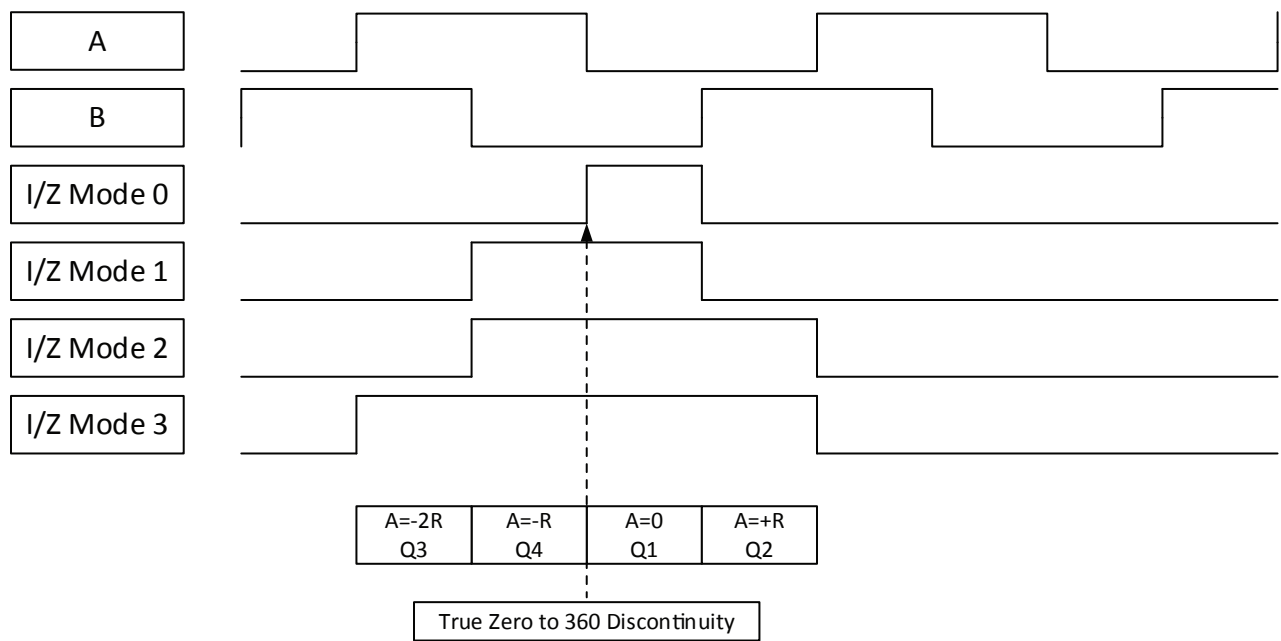

Figure 9: Index Pulse
The index pulse I (or Z in some descriptions) marks the absolute zero (0) position of the encoder. Under rotation, this allows the receiver to synchronize to a known mechanical/magnetic position, and then use the incremental A/B signals to keep track of the absolute position. To support a range of ABI receivers, the ‘I’ pulse has four widths, defined in Figure 9.